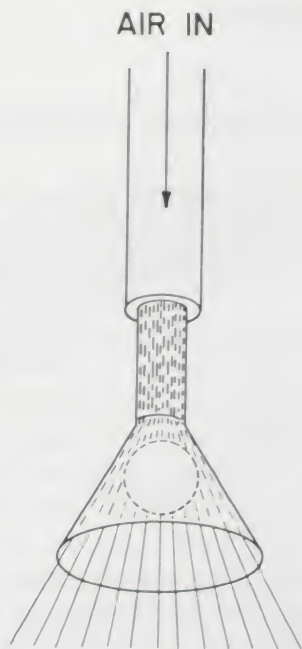

Figure 31.
5. Replace the nozzle with a funnel. Turn the air on and place a Ping-Pong ball in the throat of the inverted funnel (see Figure 31). Release the ball and describe what happens.